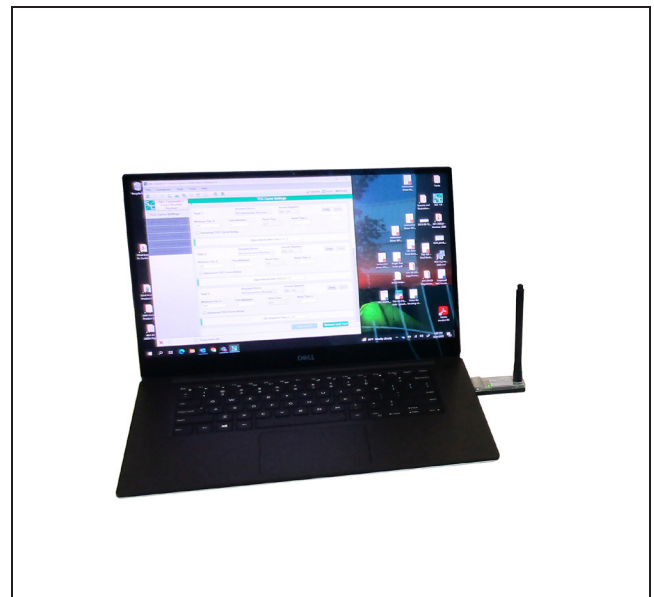

Figure 10. The USB transceiver connected to PC laptop.
- STEP 2.** Plug a USB transceiver loaded with firmware version 2.0 into a USB A port on the personal computer. See Figure 10. Then, click on the **SCC** icon on the desktop or in the **Start** menu to launch the TripSaver II Service Center Configuration Software. Read and agree to the Warning message. For more information on launching the TripSaver II Service Center Configuration Software, refer to S&C Instruction Sheet 461-504.